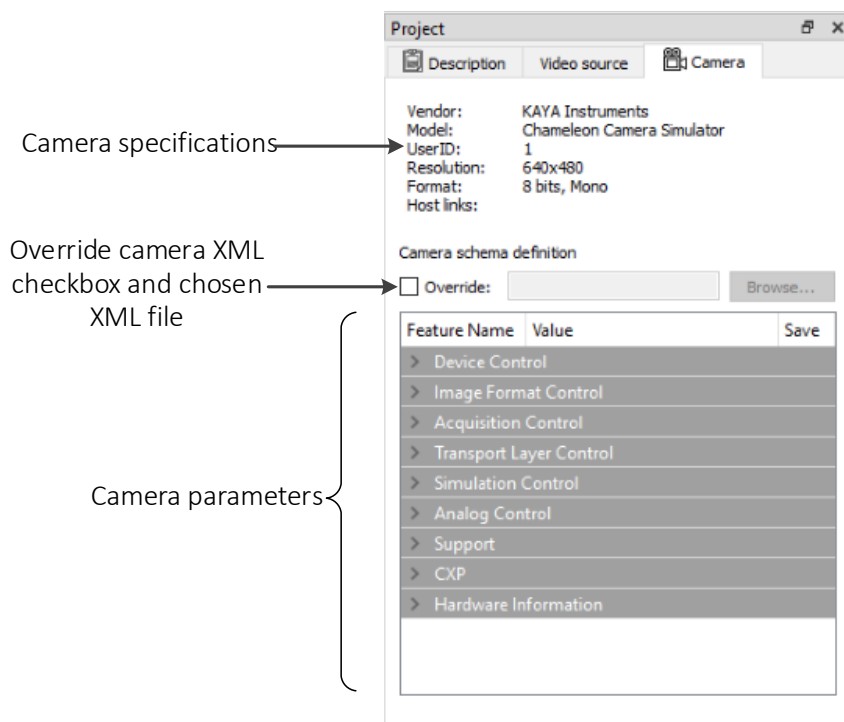

Figure 6 – Camera navigator tab
3. The Camera tab enables configuring the camera GenCam parameters listed in the camera XML file. An external XML file may be loaded in the absence of a native one from the camera. The camera tab is shown in Figure 6.